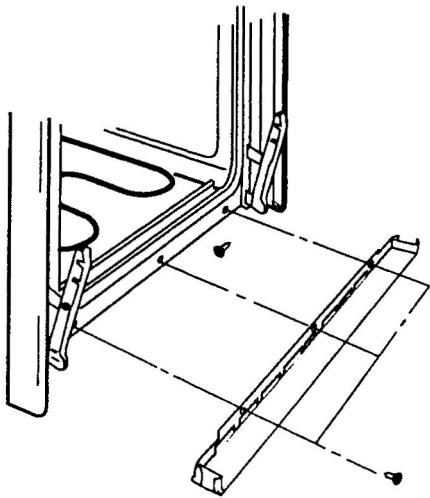

Fig. 7
4. Attach lower trim to front frame and side trim with screws provided in the literature package (see Fig. 7).